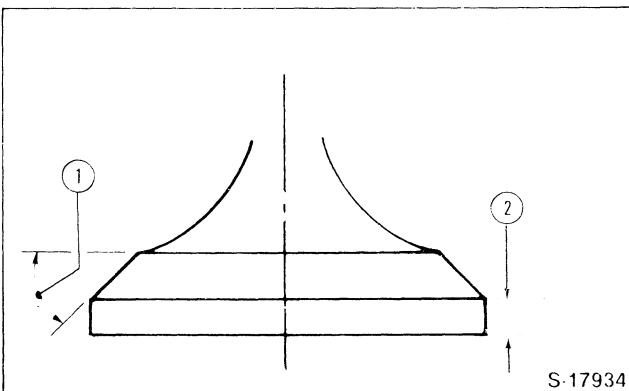

Figure 20
3. If inspection indicates that the valve may be reused, the valve should be ground as shown, Figure 20.